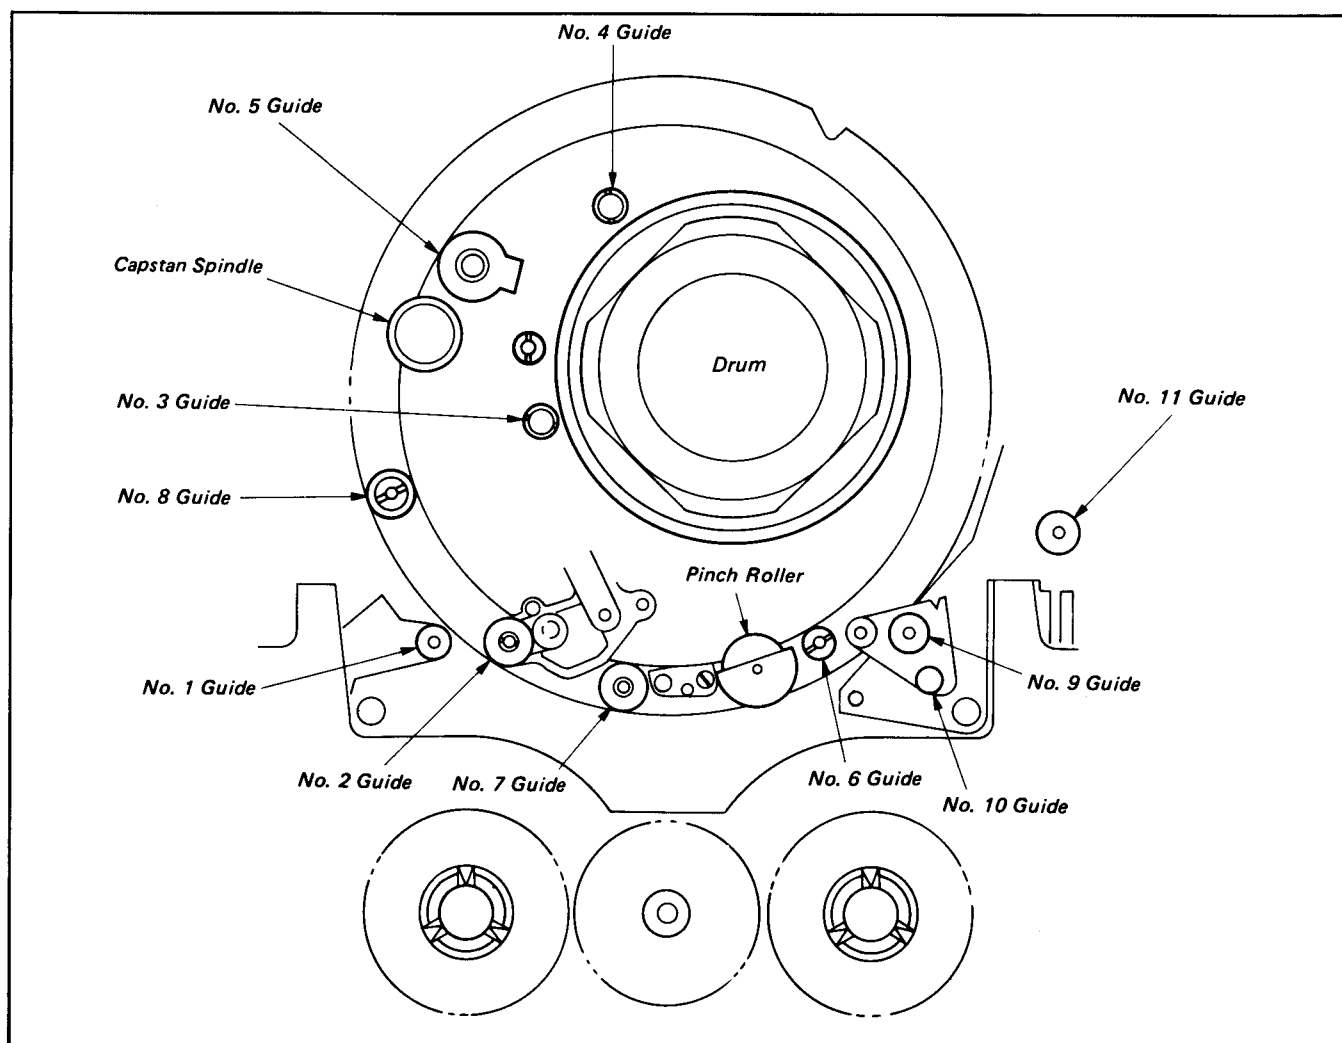

Fig. 8-5.
- 1) Set up the cassette compartment assembly in an eject state and clean the tape guide system (No. 1 to 11 guides, capstan spindle and pinch roller) with chamois leather moistened with a cleaning solution. (See Fig. 8-5.)